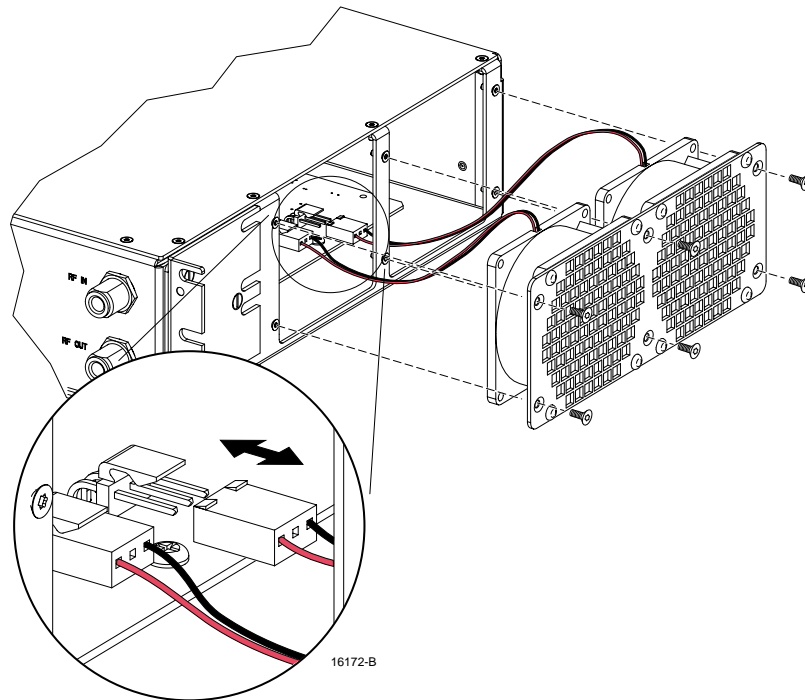

Figure 29. Fan/Grill Assembly Removal
5. Remove the six flat-head screws (requires TORX screwdriver with T15 bit) that secure the fan/grill assembly to the side of the enclosure as shown in Figure 29 and save for reuse.
7. Lift the small latch on each wiring harness connector (see Figure 29) and carefully unplug each connector from the circuit board connector.
12. Secure the fan/grill assembly to the side of the enclosure (see Figure 29) using the six flat-head screws removed in step 5.